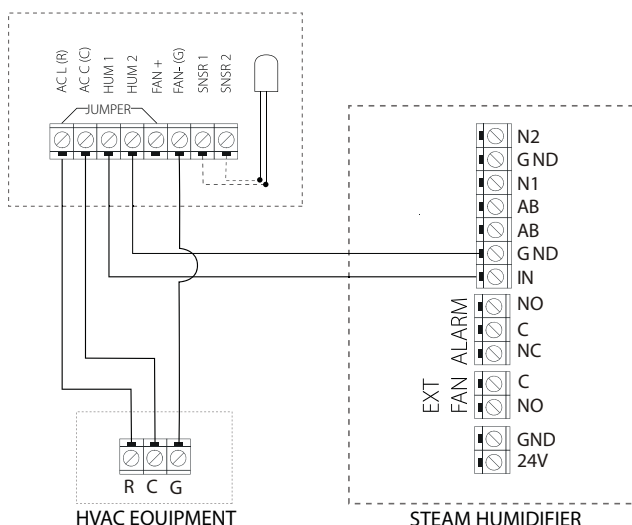

Fig. 3.t
4. Connect the GF-X4 and steam humidifier to the HVAC equipment as shown in Figure 3.s. to activate the HVAC blower.